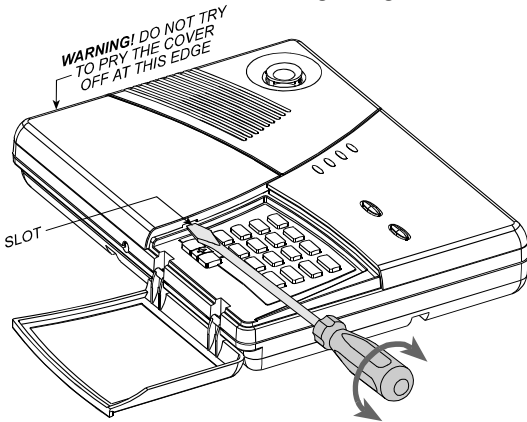

Figure 9. Prying the Cover Loose
- C. Insert a wide bladed screwdriver into the slot shown in Figure 9, and turn the handle slightly to force the right edge of the left-hand cover up. This should dislodge the two catches and free the right edge of the cover.